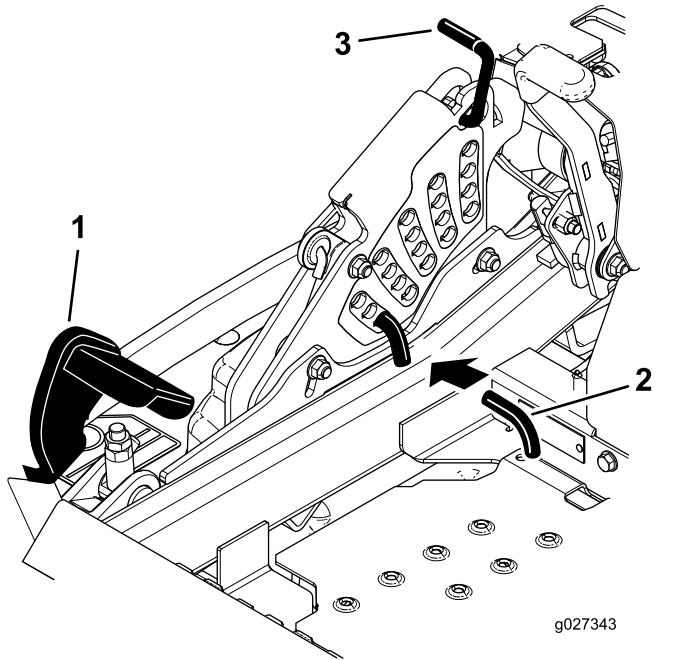

Figure 23
2. Push on the deck-lift pedal with your foot, and raise the mower deck to the transport position (also the 140 mm (5-1/2 inches) cutting-height position) as shown in Figure 23.
3. To adjust, rotate the pin 90 degrees and remove the pin from the height-of-cut bracket (Figure 23).
4. Select a hole in the height-of-cut bracket corresponding to the height-of-cut desired, and insert the pin (Figure 23).